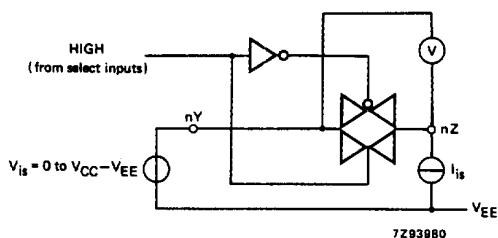

Fig.8 Test circuit for measuring  $R_{ON}$ .
- For test circuit measuring  $R_{ON}$  see Fig.8.